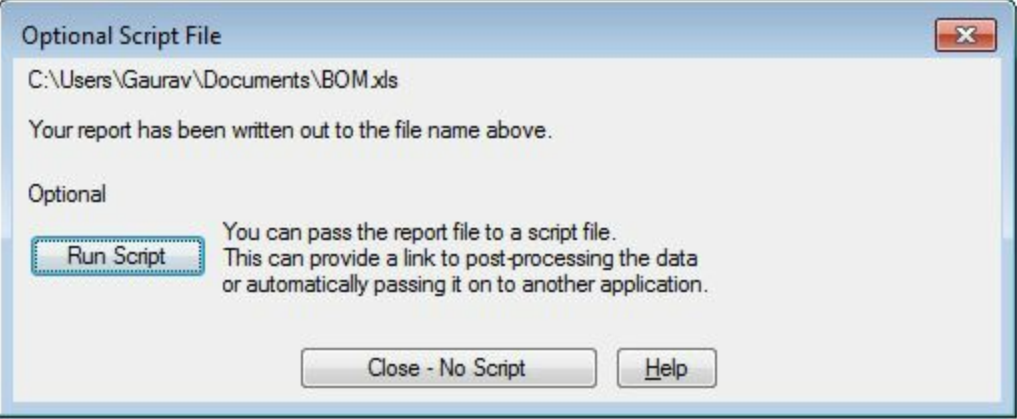

Figure-11. Optional Script File dialog box
- Browse to the desired location in the hard-drive and save the file. On selecting the Save button, the **Optional Script File** dialog box will be displayed; refer to Figure-11.